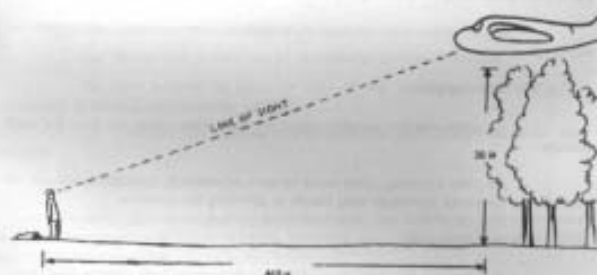

Figure 29. Placement of D2 Markings.
(1) Markings must be clearly visible to the pilot of the approaching aircraft. As a guide, markings must have a clearance of at least 460 meters from a 100-foot obstacle (figure 29).
(2) Additionally, precautions must be taken to ensure that the markings can be seen only from the direction of the aircraft approach. Flashlights may be equipped with simple hoods or shields and aimed toward the flight path. Fires or improvised flares are screened on three sides or placed in pits with sides sloping toward the direction of aircraft approach.
(3) When panels are used for daylight markings of DZ's, they are positioned at an angle of approximately 45° from the horizontal to present the maximum surface toward the approaching aircraft.